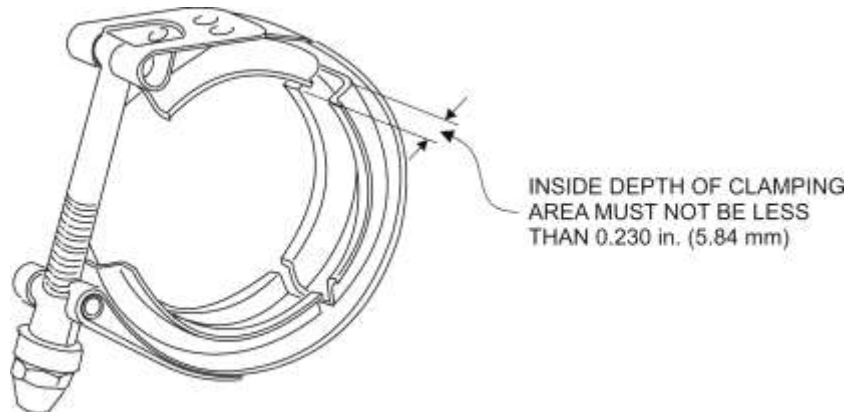

Figure 7
- J. Examine the V-band sections of each coupling with a depth micrometer. Refer to Figure 7. Make sure there are no dimensions less than 0.230 in. (5.84 mm) on the V-band parts. If a dimension is less than 0.230 in. (5.84 mm), discard and replace the coupling. Never use the defective coupling again.